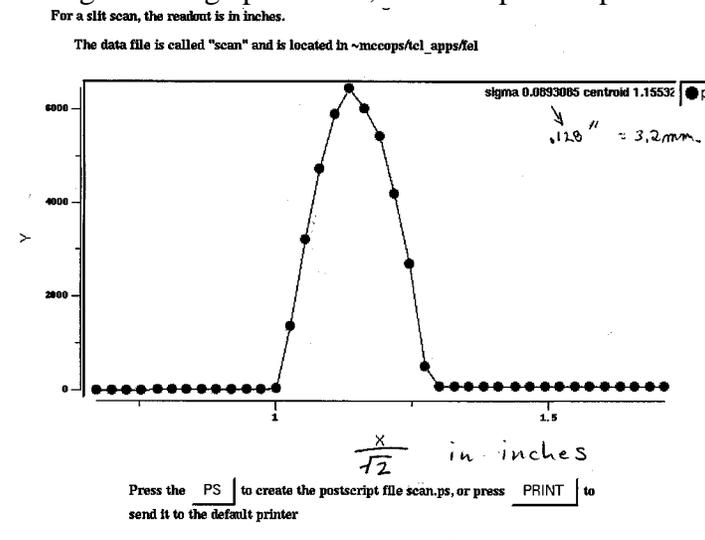

Figure 2
13. Set the pulse control to 1 kHz, 4.68 MHz, 50 microseconds. Cycle light box harp and record the amplitude and sigma of the pulse. Adjust the drive laser attenuator until the amplitude is about 6300 picoAmps with a sigma of about 0.128 inches, see Fig. 2. This sets the charge per bunch to 60 pC and the average current to 14 uA. Cross calibrate the measurement with the intercepted current in the injector dump.